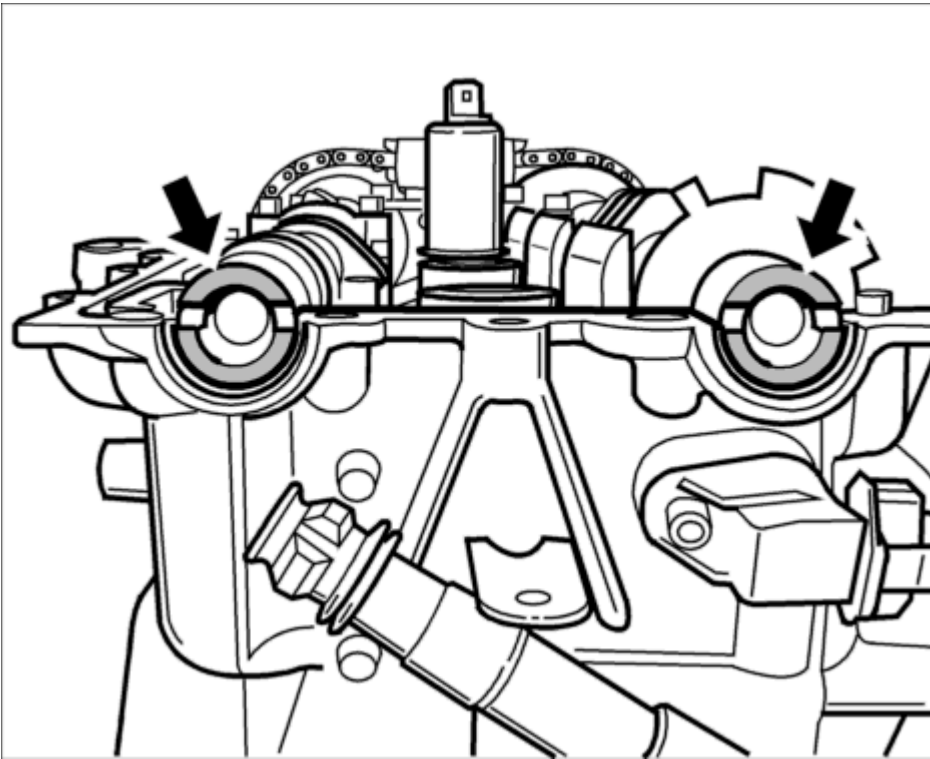

Fig. 30: Slot position of camshafts at overlap
11. Align both camshafts. The small circular cut-outs must point upwards **-arrows-** . See **Fig. 30**.